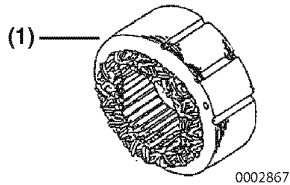

Figure 7-34
Inspect the armature and DC coils of the stator (Figure 7-34, (1)) for: